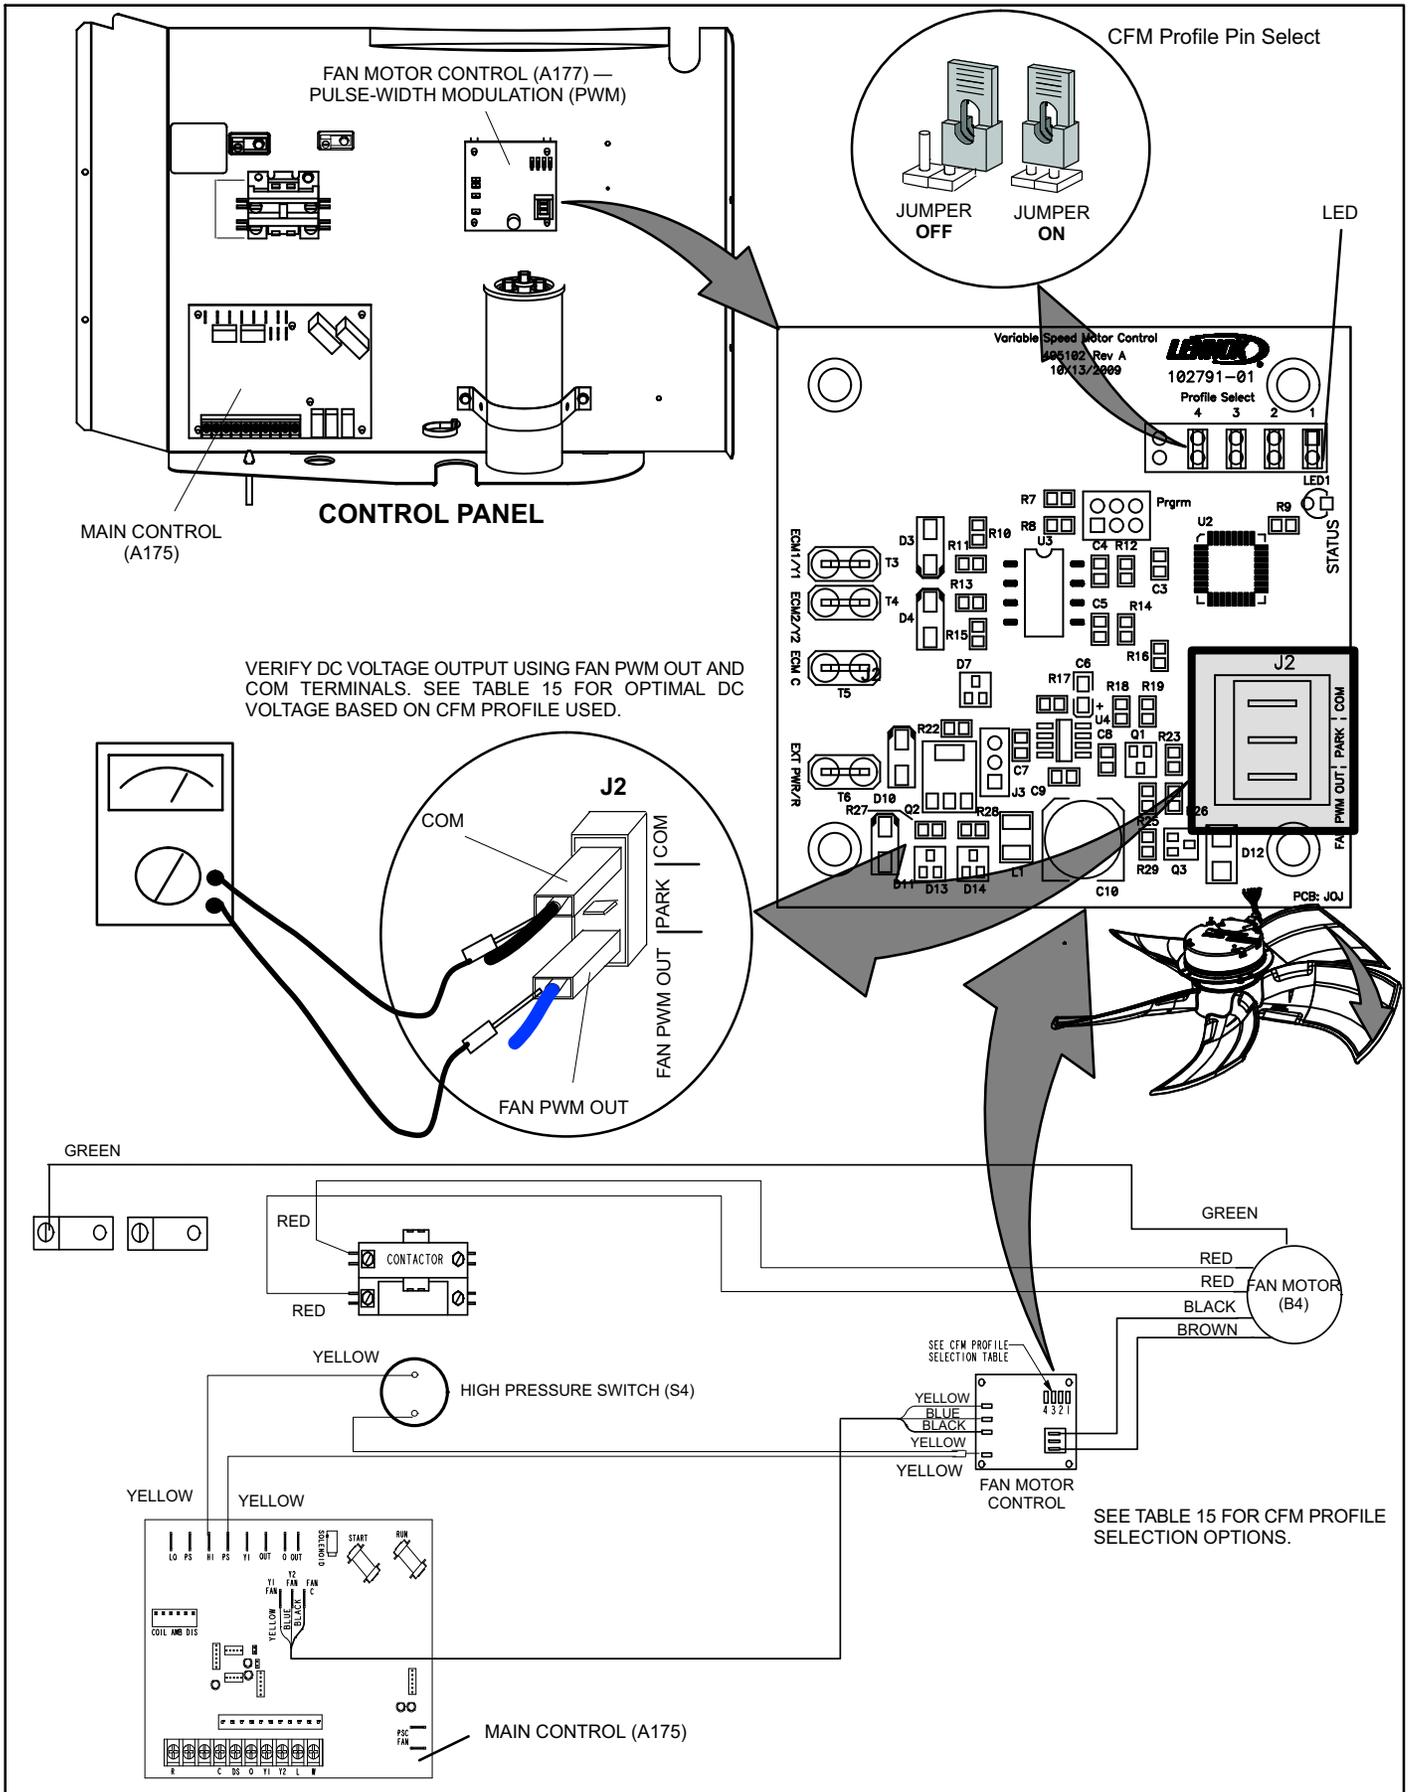

Figure 22. Fan Control, Wiring, Jumper Settings, Testing and LED Location — XC21-XXX-230-05 AND LATER
3. Test DC voltage output on the fan motor control's J2 terminals (see figure 22) while under full load and verify the voltage read to the voltage listed in table 15 for the applicable size unit.